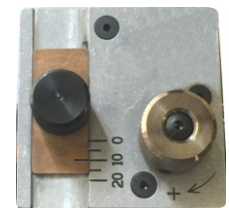

Fig.9
4. Set the blade angle. 10° is a typical starting point for setting the blade angle. The angle can be re-set based on cable size and insulation thickness. Fig.9